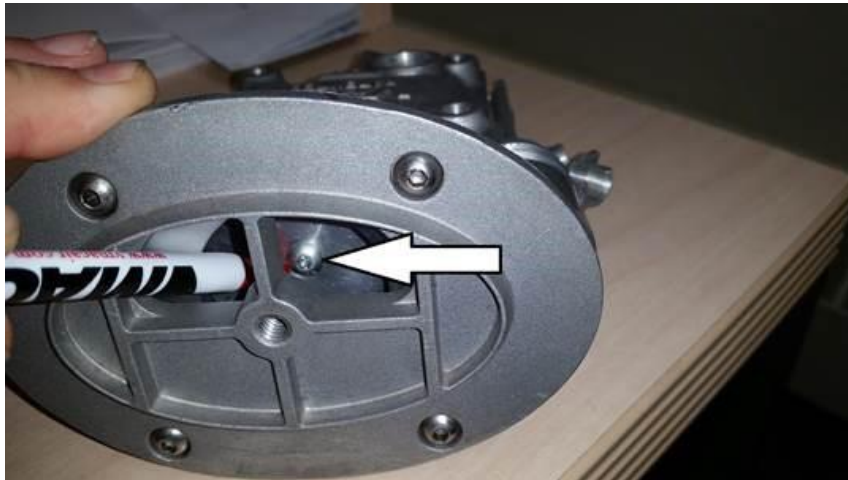

Figure 1
- Confirm that the poppet plate screw has not become dislodged or loosened off. (Figure 1)